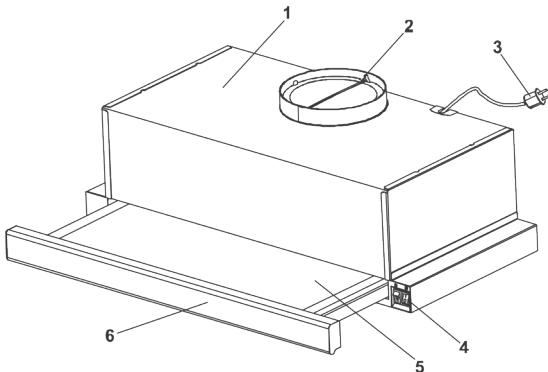
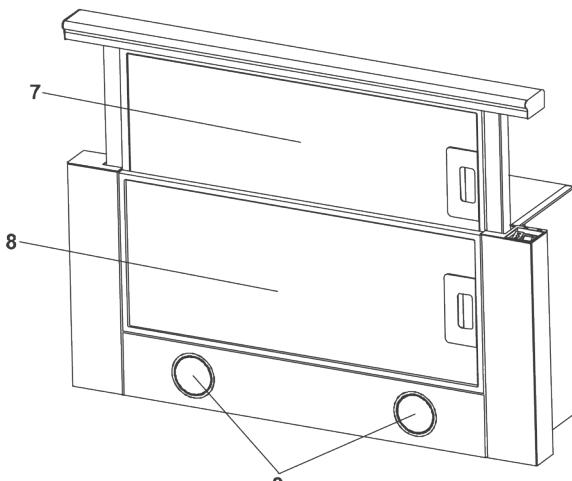

Fig. 3
Fig. 3.1
5.4 The cooker hood consists of the following components [Fig. 3/Fig. 3.1]: